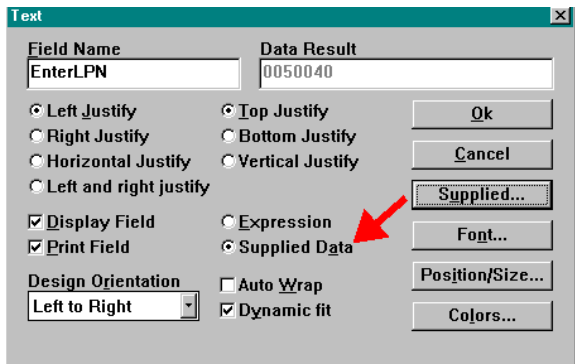
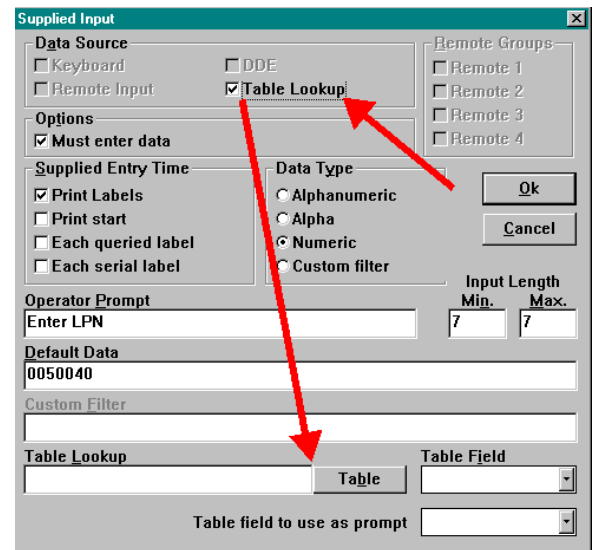
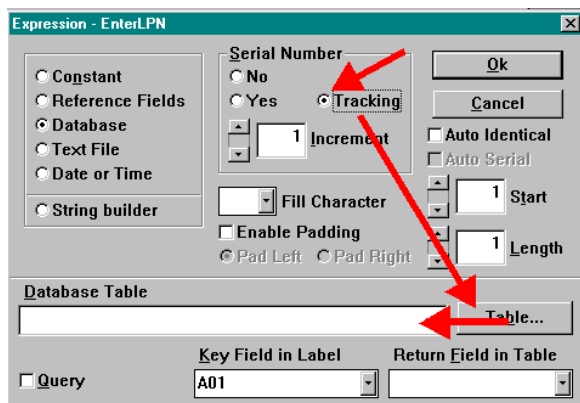
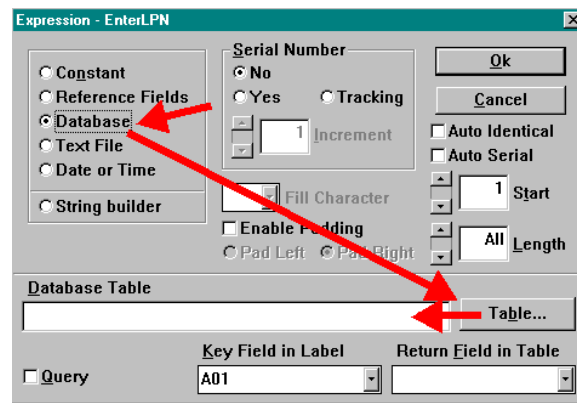

Figure 2a
Figure 2b
Figure 3
Figure 4
4. Look for any fields on the label that access a database. These can be fields that use a Supplied Input (Figure 2a) with a Table Lookup (Figure 2b), a Tracking Serial Number (Figure 3), or a field with an expression type of Database (Figure 4).